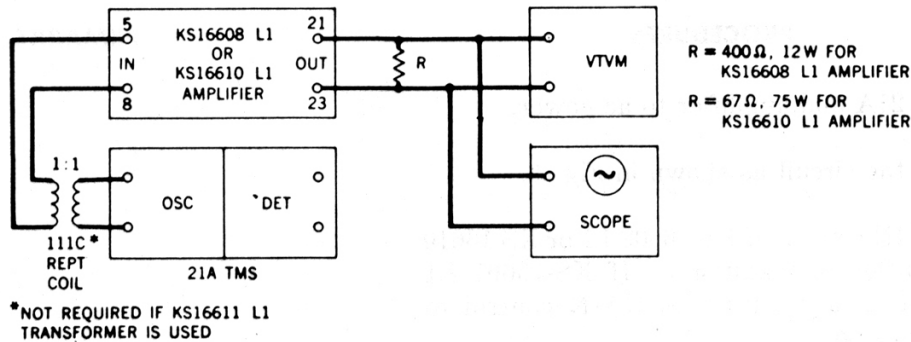

Fig. 7—Test Setup for Observing Distortion
7.01 The distortion of the amplifier should be observed in accordance with the test setup shown in Fig. 7. Chart 3 outlines the step procedure for this test.
2	Connect circuit as shown in Fig. 7.